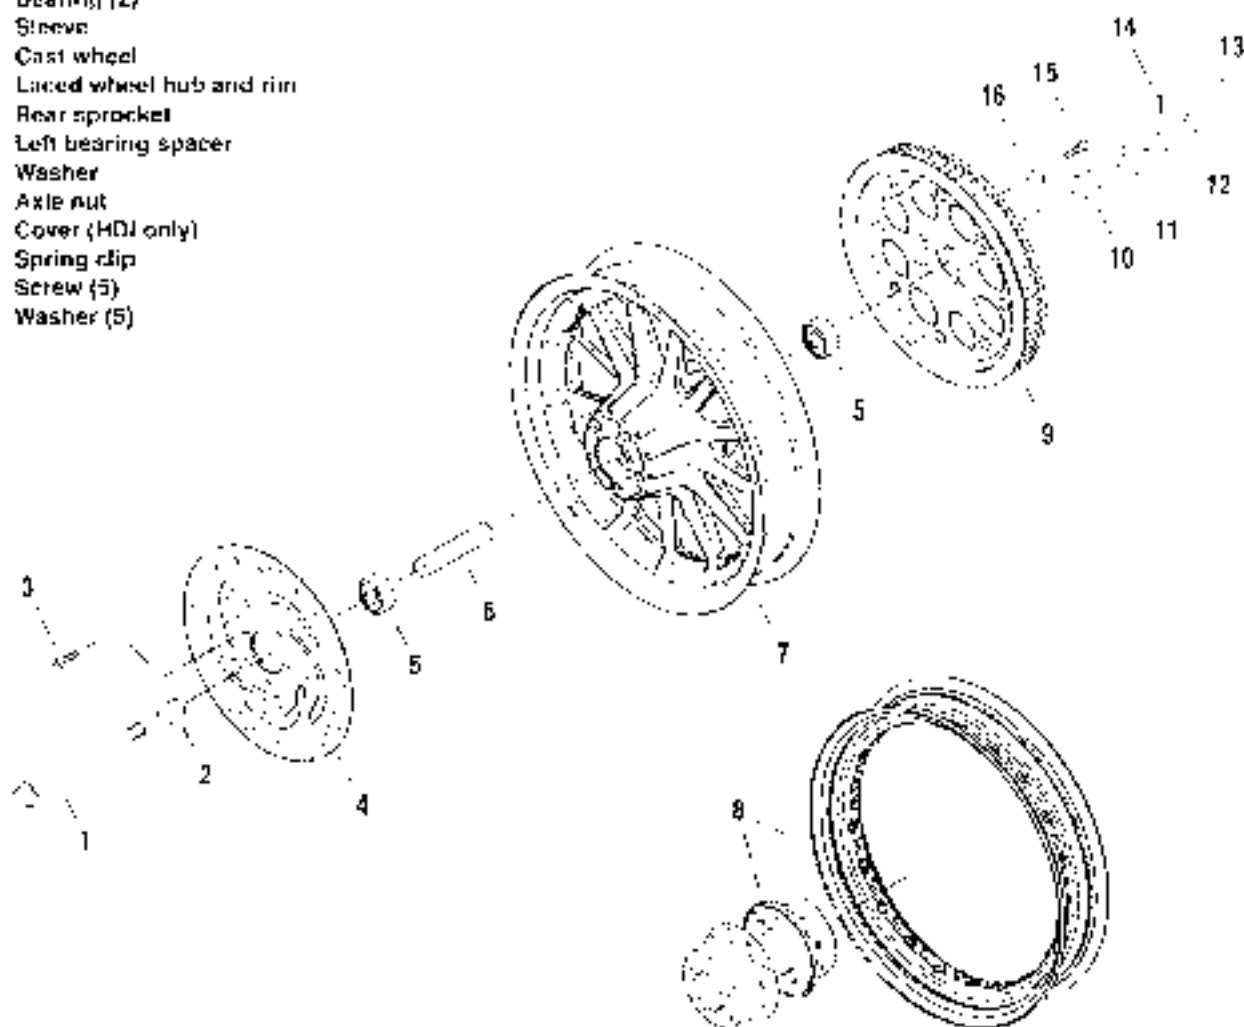

Figure 2-12. Rear Wheel/Hub
1. See Figure 2-12. Remove spacers (2, 10) from left and right sides.
- a. On left side of wheel, remove two screws (15) and washers (16) to detach rear sprocket (9).
- b. On right side of wheel, remove two screws (13) to remove rear brake (3-6, 14).
2. See Figure 2-12. Install brake disc (4) on the center side of wheel.
- a. Apply a drop of LOCK TITE THREADLOCKER (1240 lbs.) to the two screws (3).
3. Install ball sprocket (2) if removed.
- a. Apply two drops of **LOCTITE THREADLOCKER 262** (blue) to the five screws (15). Install sprocket using screws (15) and washers (16).
4. Install spacers (2) (10) into hub with largest chamfered end facing away from wheel.
2. See Figure 2-12. Mount a magnetic base dial indicator to the brake disc with the dial contact point on the rim of the disc.